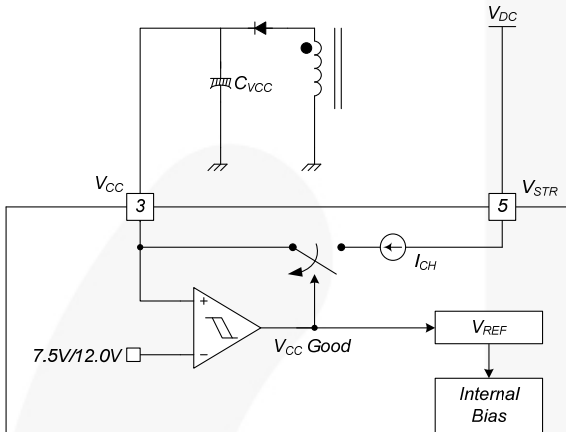

Figure 18. Startup Block
1. Startup: At startup, an internal high-voltage current source supplies the internal bias and charges the external capacitor (C_{VCC}) connected to the V_{CC} pin, as illustrated in Figure 18. When V_{CC} reaches 12V, the FSL117MRIN begins switching and the internal high-voltage current source is disabled. Normal switching operation continues and the power is supplied from the auxiliary transformer winding unless V_{CC} goes below the stop voltage of 7.5V.